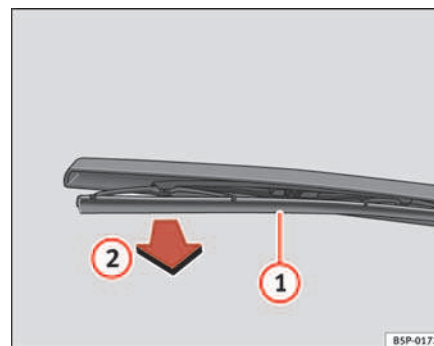

Fig. 160 Changing the rear window wiper blade
- Lift the wiper arm away from the glass ⇒ fig. 160.
- Unclip the wiper blade ① and pull ② ⇒ fig. 160.